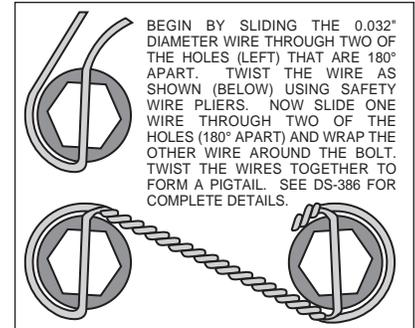

Figure 3. Safety Wire Diagram
- The caliper mount bracket assembly (1) should be installed first with clean, dry threads on the mounting bolts. Install the bracket (1) on the inboard side of the hub by sliding bolt (2) through washer (3). Place two shim washers (4) between the bracket (1) and the mounting ears. The bracket must tighten squarely against the inboard side of the caliper mount ears on the upright. Inspect for interference from casting irregularities, machining ridges, burrs, etc. Later, after the caliper, pad, and rotor alignment has been checked, and any necessary shims have been put in place, the mounting bolts should be coated with red *Loctite*® 271 and torqued to 47 ft-lbs.
- With the larger I.D. side of the rotor (6) facing away from the hat (7), bolt rotor (6) to hat (7) through the backside of the rotor using washers (8) and bolts (9). Using an alternating sequence, apply red *Loctite*® 271 to the threads and torque bolts to 140 **in-lb**. For an added measure of security, the bolts may be safety wired using standard 0.032 inch diameter stainless steel safety wire as shown in Figure 3. Please refer to Wilwood's data sheet DS-386 (available at www.wilwood.com/Pdf/DataSheets/ds386.pdf) for complete safety wire installation instructions.